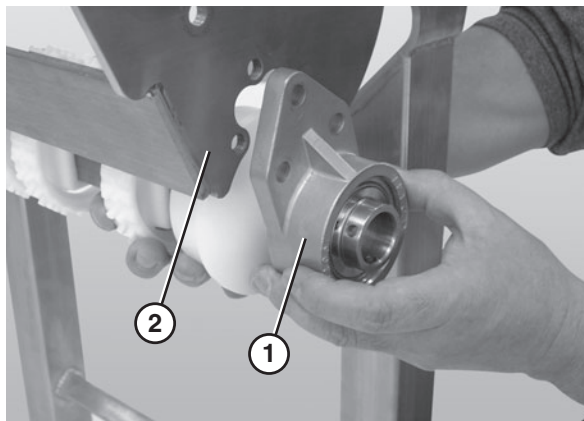

Figure 59
7. Disconnect the 3 hole flange bearing (**Figure 59, item 1**) from the nose bar drive weldment (**Figure 59, item 2**).